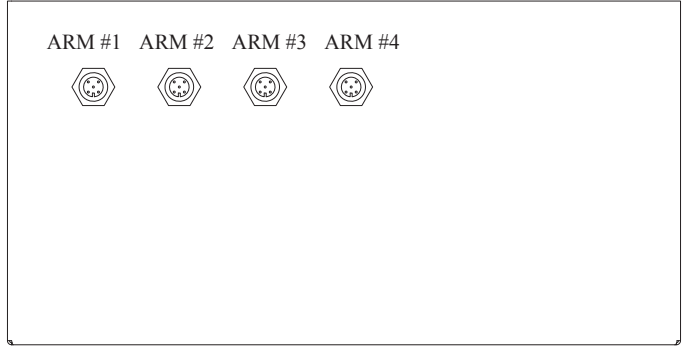

FIG 4
5. Make the appropriate connections to the electrical sockets located on the electrical control box. Note that the connections are marked ARM #1, ARM #2, ARM #3 and ARM #4 (Fig. 4).